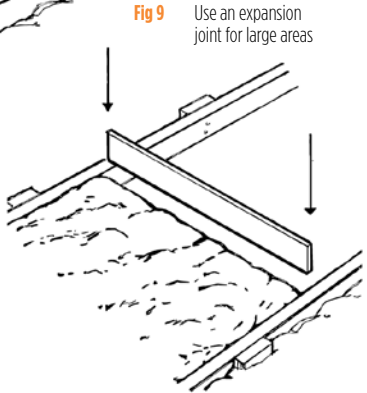

Fig 9 Use an expansion joint for large areas
- For large areas use an expansion joint every three metres (Fig 9). An expansion joint can be a piece of softwood or preferably, a piece of bituminous stripping. This joint must be the same height as the finished slab and will remain there to take up any excess movement.